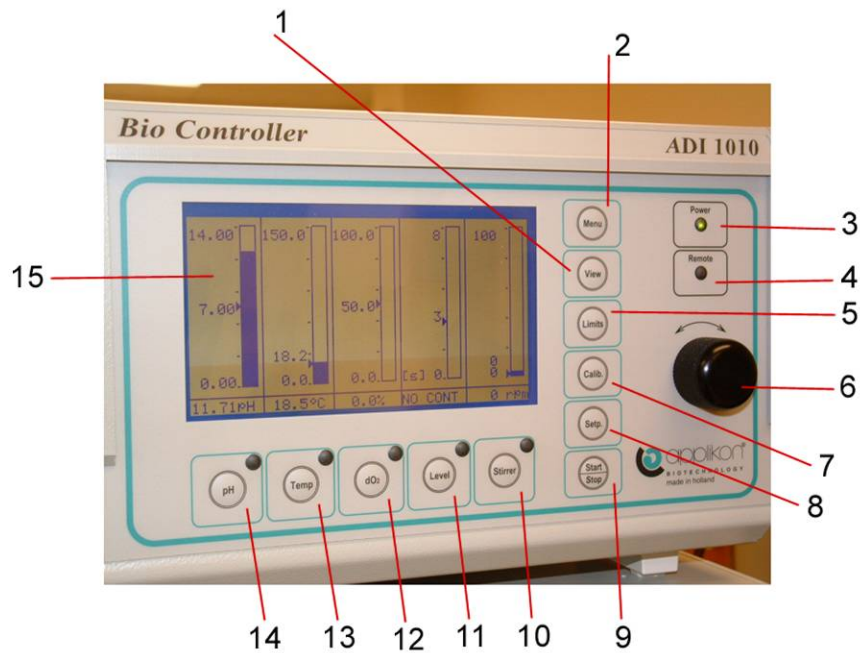

Figure 4: ADI1010 Controller
- 9.4. Figure 4: ADI1010 Controller